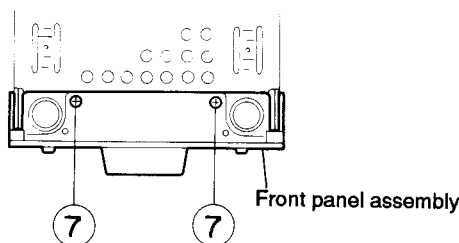

Fig. 5-28
3. Remove the two screws ⑦ from the bottom face of the body (See Fig. 5-28).